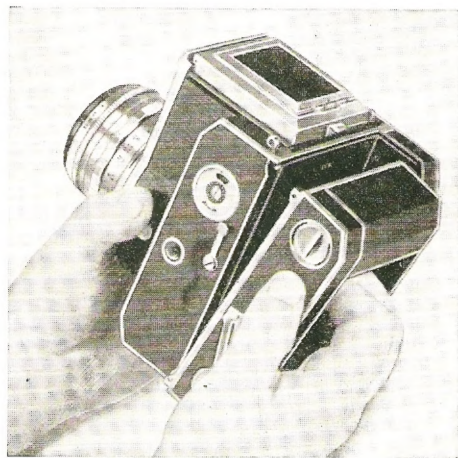

Fig. 4
To unlock the camera back (30), the lever (31) must be swung along the surface of the camera body, clockwise, half a rotation upwards, i. e. in the direction of the lighthood (1). Push the camera back (30) about 3 to 4 mm to the left (looking at the back of the camera) and take it off. — When replacing the camera back, take the camera into your left hand, the camera back into your right hand and attach the back so as to leave a space of not more than 3 to 4 mm between the projecting part of the camera body and the right-hand edge of the camera back, as in Fig. 4. Place the back in an angular position to the camera and let the bottom edge of the back exactly into the groove of the camera body. Now fold the upper part of the back against the camera body and push it
Attach camera back as described. Take care that the back is attached from the far right as shown in Fig. 4 (space between camera back and projecting part of the camera body not more than 3 to 4 mm), otherwise protective paper might be damaged! Turn the winding disk (27) seven times from its resting point to the stop, letting it run back each time. Before this performance,